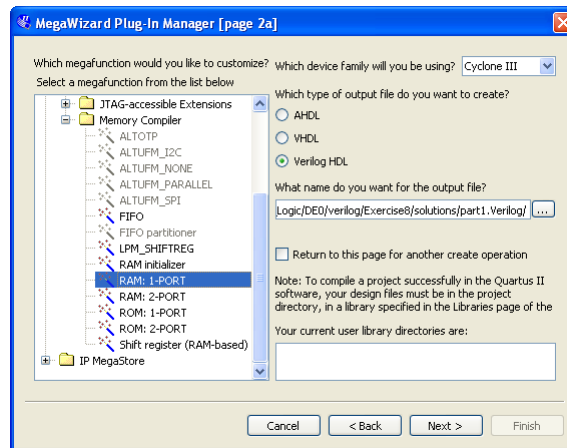
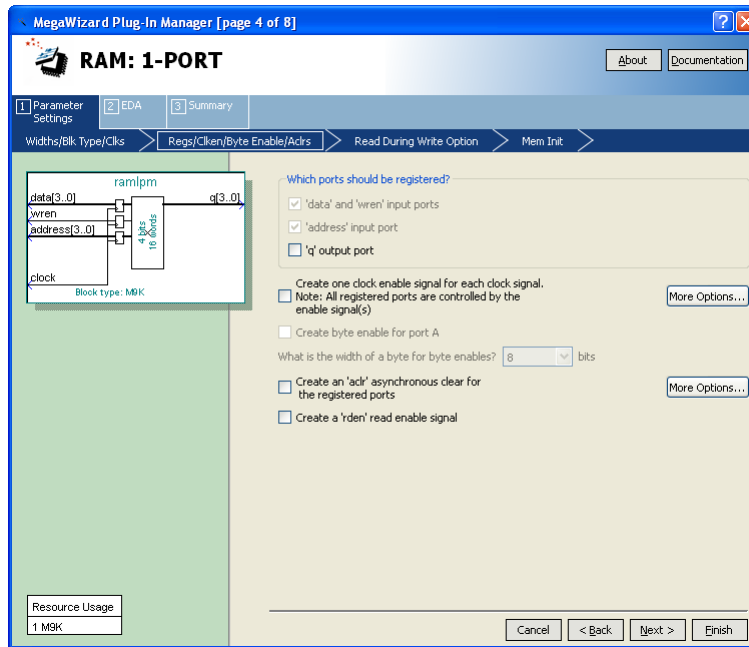

Figure 2: Choosing the *RAM: 1-PORT* LPM.
Figure 3: Configuring input and output ports on the *RAM: 1-PORT* LPM.
2. You can learn how the MegaWizard Plug-in Manager is used to generate a desired LPM module by reading the tutorial *Using Library Modules in Verilog Designs*. This tutorial is provided in the University Program section of Altera's web site. In the first screen of the MegaWizard Plug-in Manager choose the *RAM: 1-PORT* LPM, which is found under the Memory Compiler category. As indicated in Figure 2, select Verilog HDL as the type of output file to create, and give the file the name *ramlpm.v*. On the next page of the Wizard specify a memory size of 16 four-bit words, and select M9K as the type of RAM block. Advance to the subsequent page and accept the default settings to use a single clock for the RAM's registers, and then advance again to the page shown in Figure 3. On this page *deselect* the setting called 'q' output port under the category Which ports should be registered?. This setting creates a RAM module that matches the structure in Figure 1b, with registered input ports and unregistered output ports. Accept defaults for the rest of the settings in the Wizard, and then instantiate in your top-level Verilog file the module generated in *ramlpm.v*. Include appropriate input and output signals in your Verilog code for the memory ports given in Figure 1b.